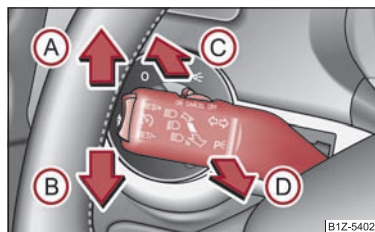

Fig. 38 Turn signal and main beam lever
⇒ page 44, fig. 38.
- Push the lever upwards (A) or downwards (B) ⇒ fig. 38.